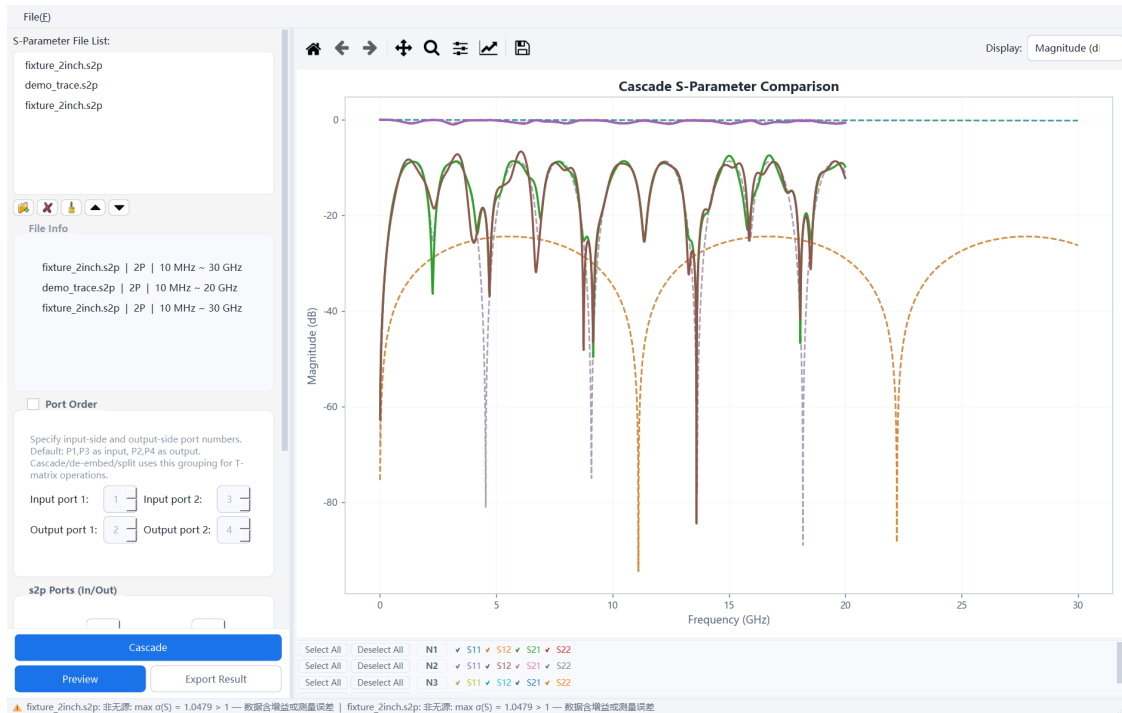

Fig. 7-3 Cascade: fixture + trace + fixture
Step 1 Menu **S-Parameter Analysis** → **Cascade**, add three files in order: **fixture_2inch.s2p**, **demo_trace.s2p**, **fixture_2inch.s2p** — keep two-port direction **1** → **2**, disable differential extraction and four-port configuration, then cascade (Fig. 7-3).